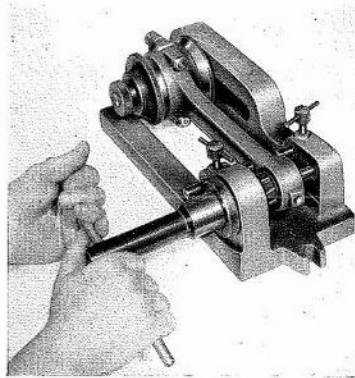

Fig. J.7
8. Obtain the reamer marked 'rough' and applying thin oil to the pilots insert the reamer into the bushes in the fixture. (See Fig. J.7). Apply kerosene to the cutting teeth and into the small end bush.